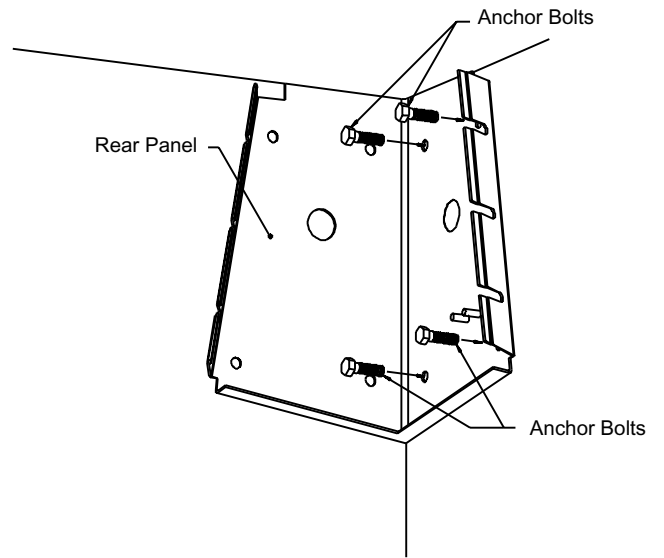

Figure 7: Mounting Rear Panel
5. Mount the rear panel by installing only the right side anchor bolts. Start the left side bolts, but **DO NOT** tighten. **See Figures 7 and 8.**